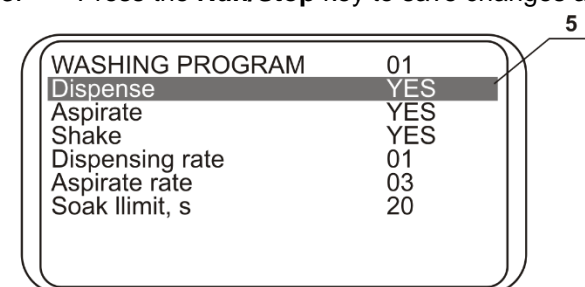
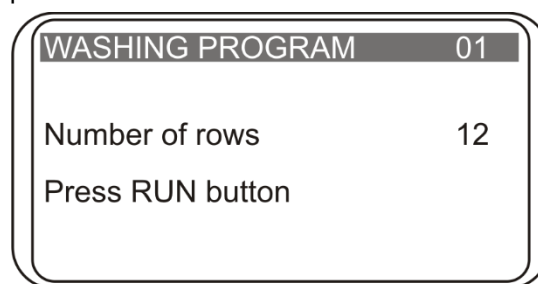

Fig. 4. Control panel
Fig. 5. Setting number of rows to rinse
4.4. Use the + and - keys (fig. 4/3) to select required washing program from 00 to 100.
- 4.5. Press the **Program Parameters** key (fig. 4/4) to view the parameters of program. In the program, 1st parameter is activated (Dispense...yes/no, fig. 4/5).
- 4.7. Press the **Back row** key (fig. 4/6) to return to the previous parameter in the program.
- 4.9. Press the **Esc** key (fig. 4/7) to exit parameter view and change mode without saving.
- 4.10. Press the **Run/Stop** key (fig. 4/2) to start the program.
- 4.11. If it is necessary to wash less than 12 rows on a microplate, press the **Rows** key (fig. 4/6) before starting. Following message appears on the display, figure 5.